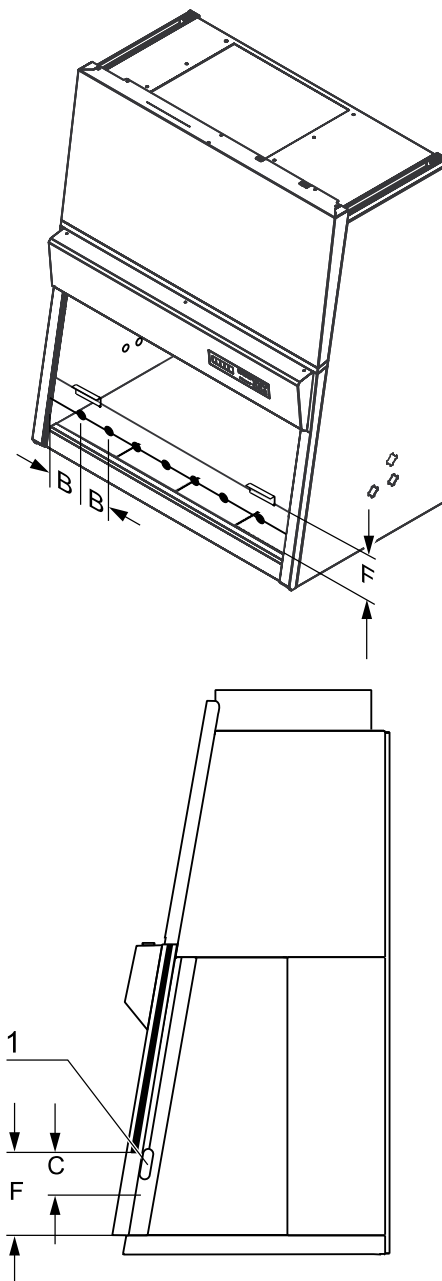

Figure 8-1. Constricted Window Method
3. Insert the thermal anemometer probe into the probe holder. Place the probe holder at the window opening work surface, ensuring it is seated properly. See Figure 8-1. Adjust the probe so the air passing through probe is centered in the window opening (1.5 in. [3.8cm]).